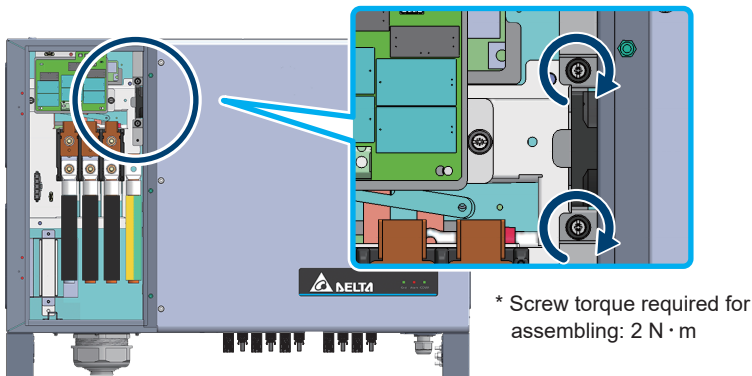
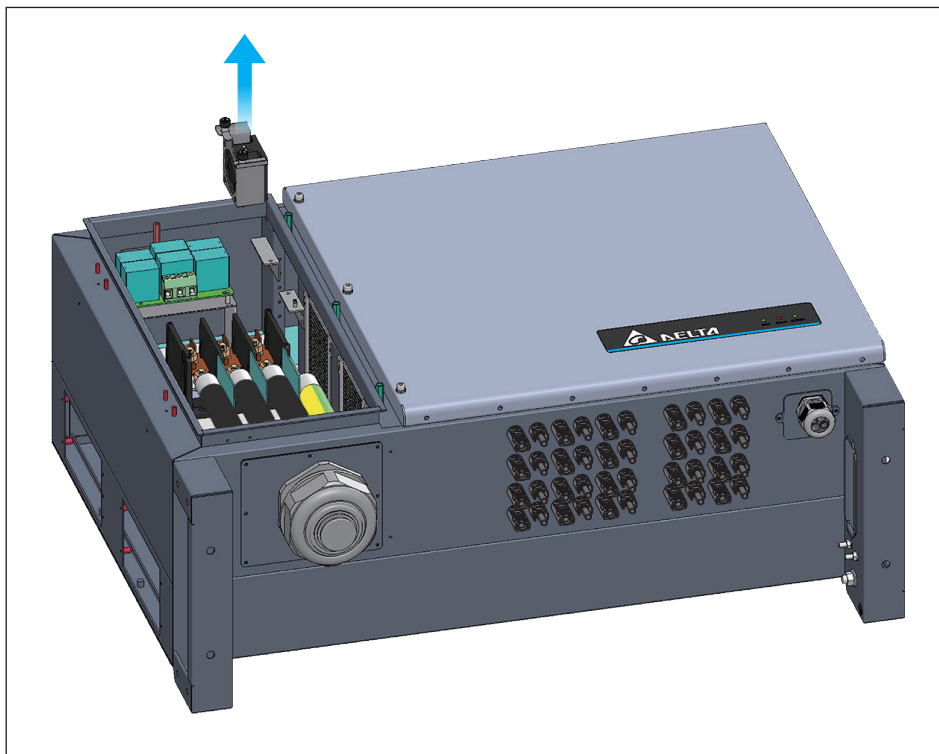

Figure 5-22: Internal Fan 2 location
Figure 5-23: Take off the internal Fan 2
- (2) Remove the two screws shown in **Figure 5-22**.
- (3) Disconnect the fan power connector.
- (4) Lift the entire fan assembly from the left compartment. (shown in **Figure 5-23**)